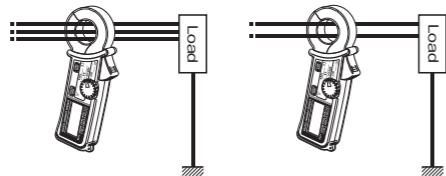

Fig. 1 Measuring out of balance leakage current
- (1) Set the Range Selector Switch to the desired position. Current to measure should be within the selected measuring range.
- (2) Measuring out of balance leakage current (See Fig.1):